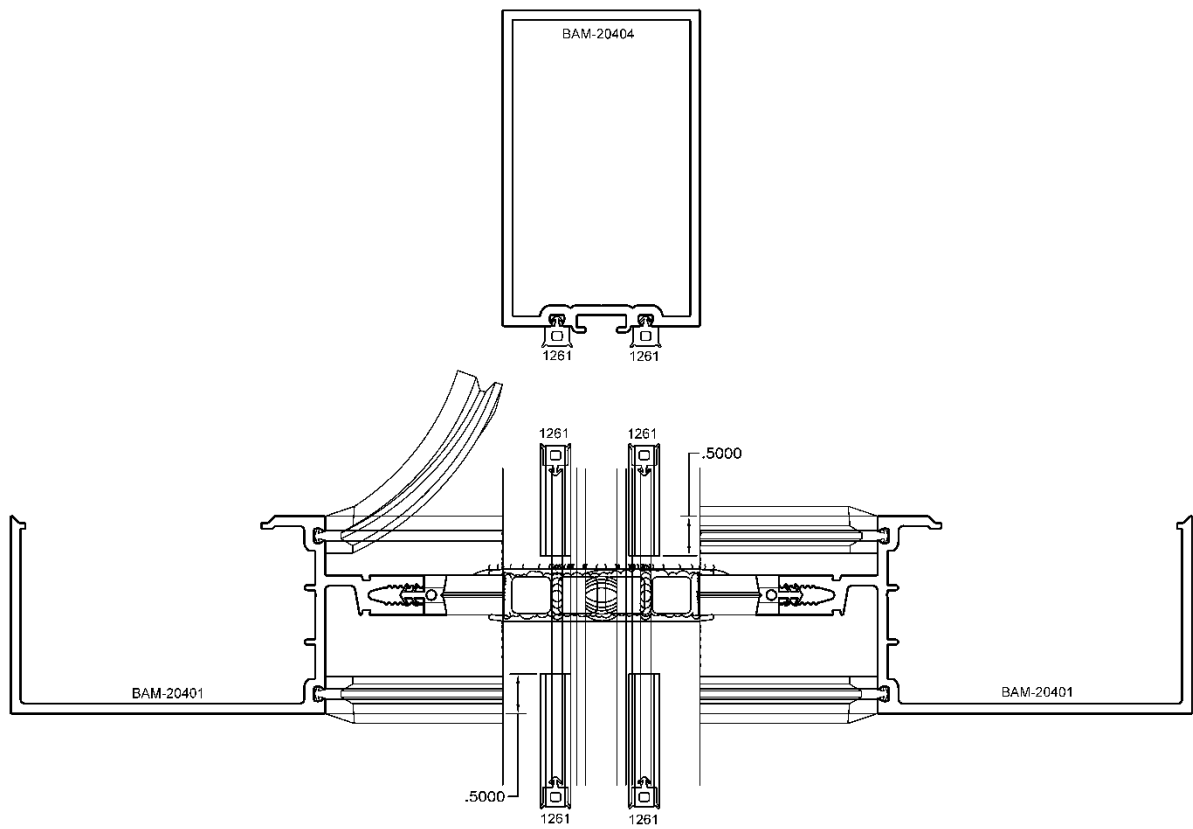

FIGURE C.2
- Insert the SSG gasket in the very same manner. Verticals run through about ½” past horizontal. (FIGURE C.2)